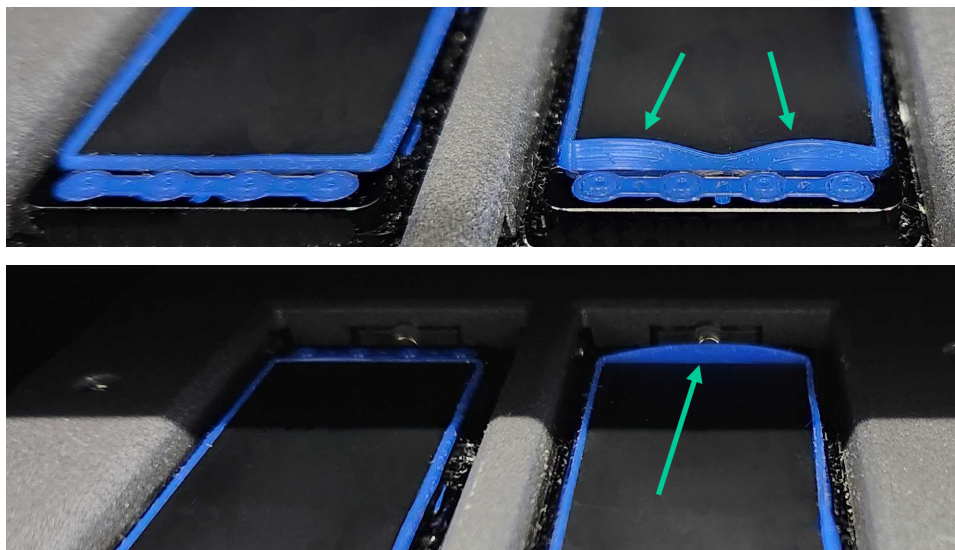

Figure 34 Raised gaskets at the front end and far end of a flow cell position, indicated by arrows.
2. Ensure the gaskets of the flow cell position is completely level by running a gloved finger all the way around the blue perimeter gasket and over the two port gaskets at the front and rear. If a gasket is raised in an area, carefully press the gasket down in that area to make sure the gasket is entirely level (see Figure 34).